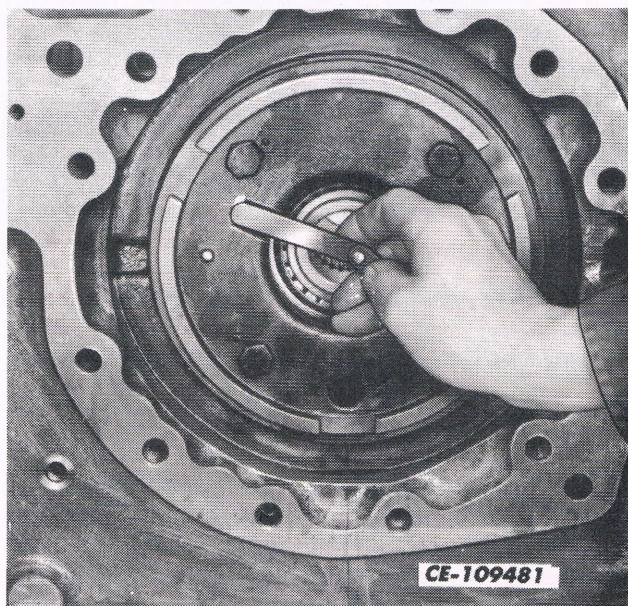

Fig. 22
10. Using a feeler gauge, measure the gap between the back side of the carrier and the frame, through the two slots in the frame. Refer to Fig. 22.